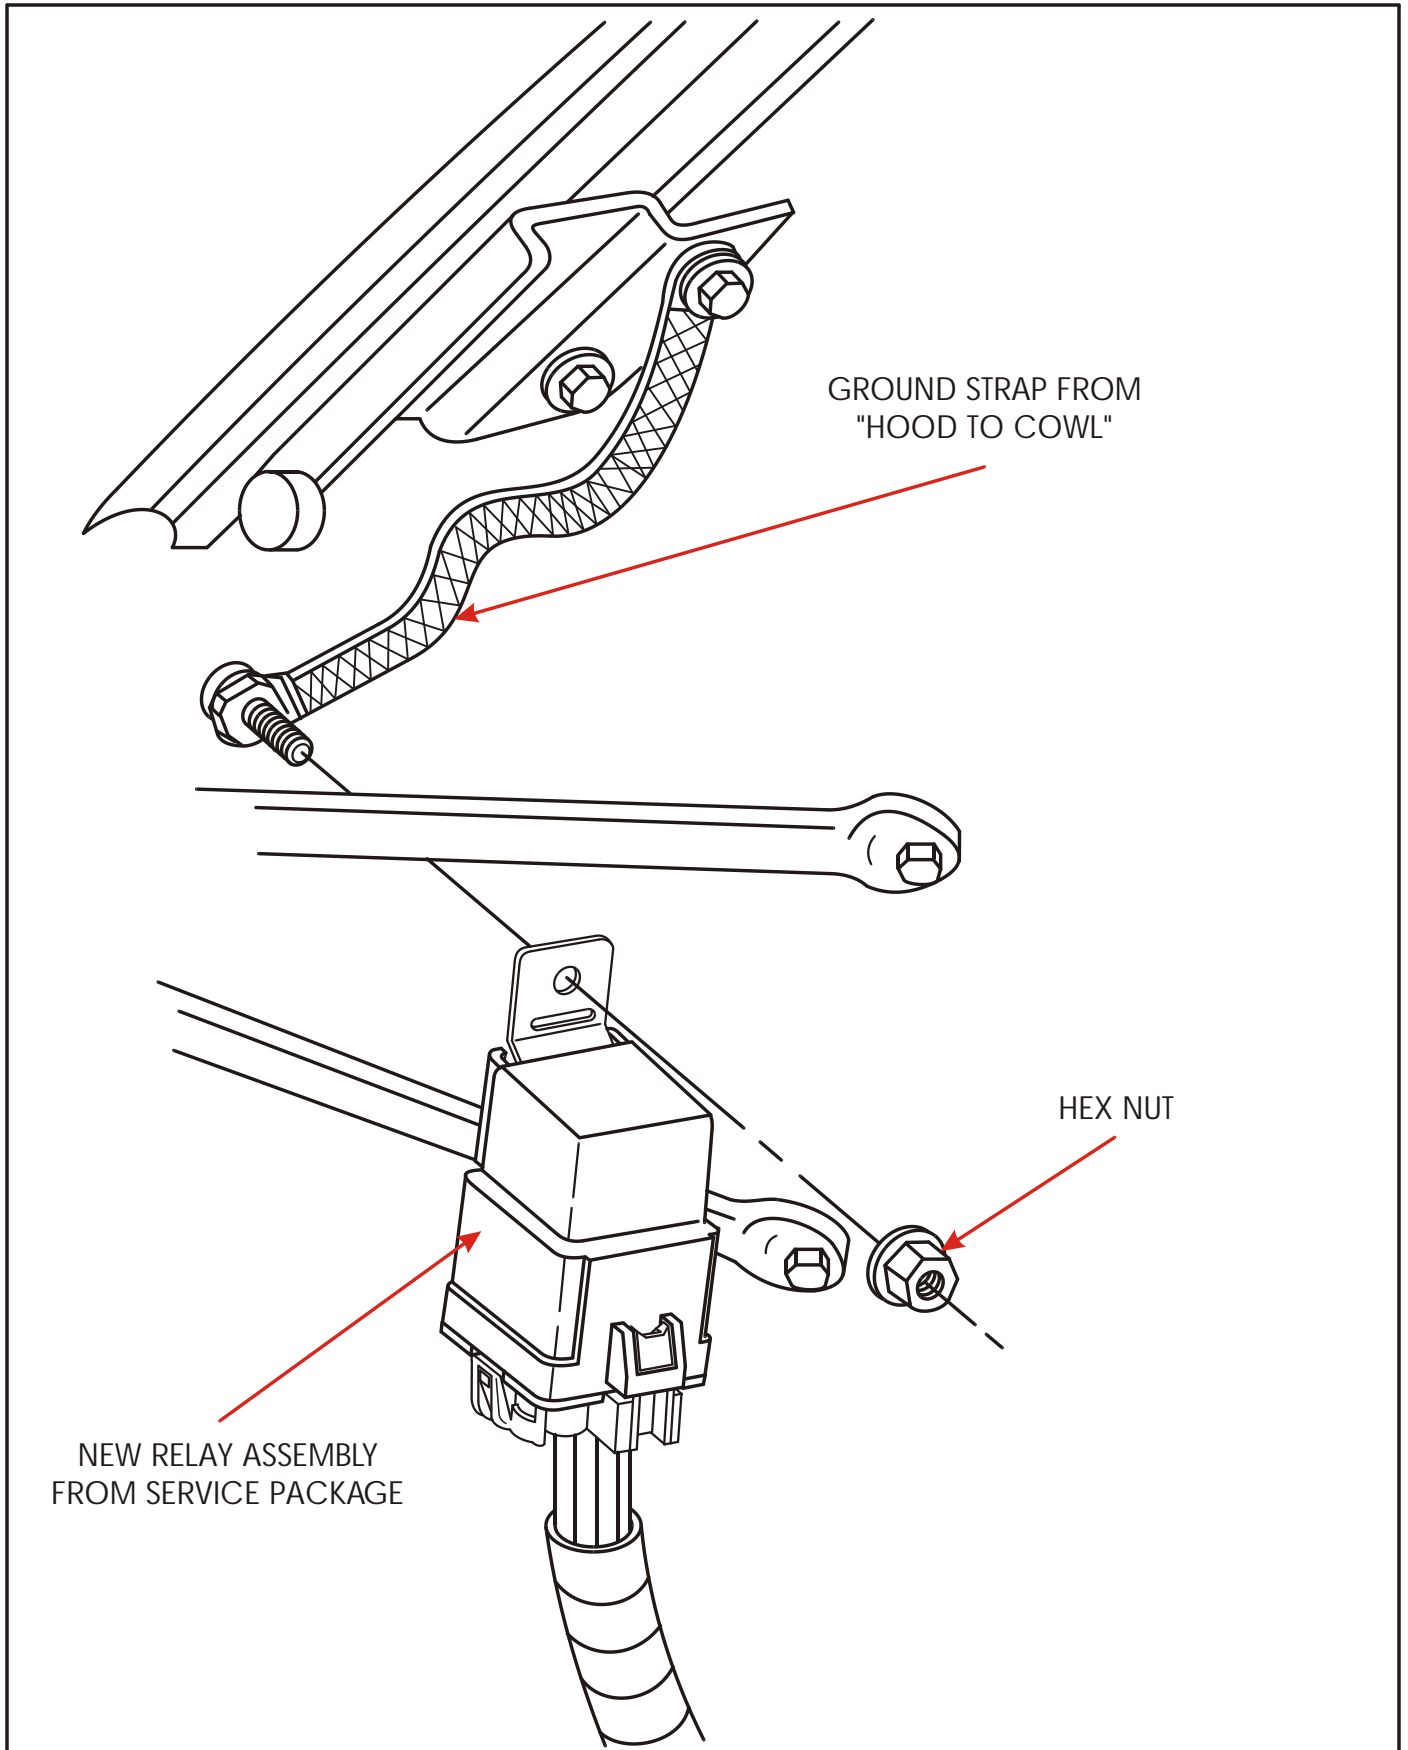

Figure 7
- (10) Remove the hex nut that secures the hood ground strap to the cowl, as shown in Figure 7. Install the new cooling fan relay bracket on top of the ground strap, leaving the ground strap in place, and reinstall the hex nut. Refer to Figure 7.
- (11) Secure the new harness into position, making sure there are no rub or pinch points, reconnect the Negative battery cable, and verify the operation of the cooling fan.